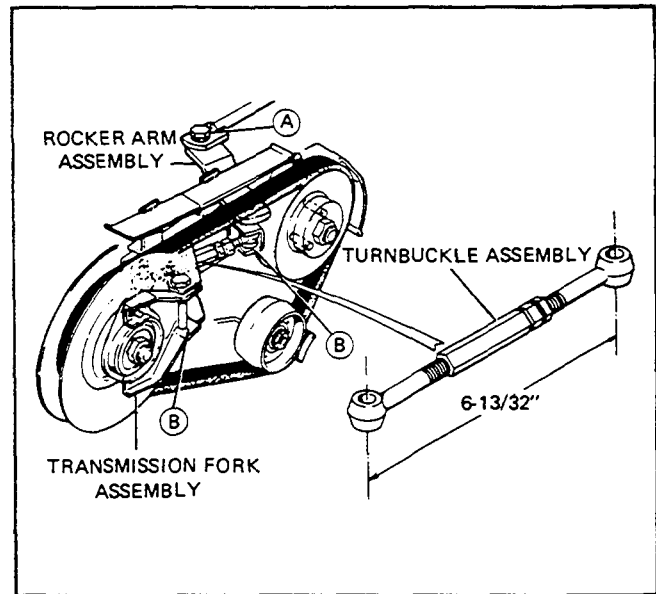

FIGURE 2
A. Remove the 3/8" nut and bolt from the arm and rocker assembly, reference letter "A", Fig. 2.
B. Remove the locknuts, reference letter "B", Fig. 2 and lift out bolt and rocker assembly.
placed forward when assembling in the tractor. Assemble both eyebolts with the same length of threads engaged in the turnbuckle. (See Fig. 2.)
IMPORTANT: After tightening the locknuts, reference letter "B", Fig. 2, insure that there is free movement of the fork assemblies.